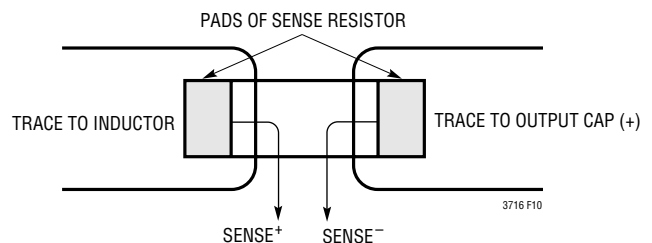

Figure 10. Proper Current Sense Connections
3) Are the SENSE⁻ and SENSE⁺ leads routed together with minimum PC trace spacing? The filter capacitors between SENSE⁺ and SENSE⁻ pin pairs should be as close as possible to the LTC3716. Ensure accurate current sensing with Kelvin connections at the current sense resistor. See Figure 10.